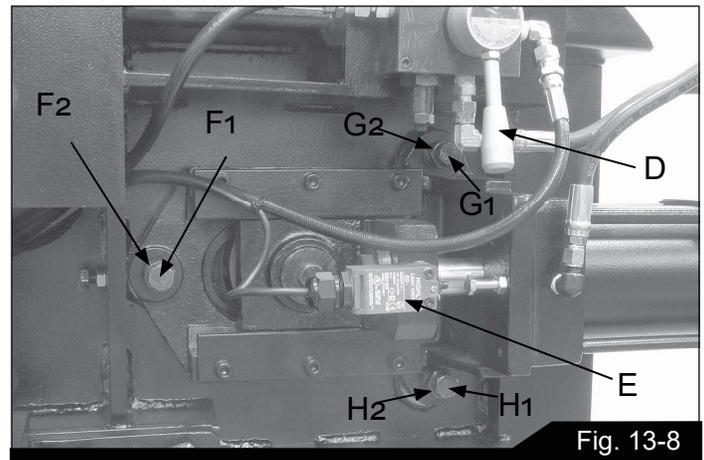

Fig. 13-8
2. Release blade tension using the tension lever (see D, Fig. 13-8).
13. Turn lever (D, Fig. 13-8) to tension blade.
Push lever (D, Fig. 13-8) to the right to tighten the blade, or left to detension it for blade replacement. Do not overtension blades.
3. Locate tracking adjustment bolts on the backside of the saw head behind the driven wheel (Figure 13-8).
4. Minor adjustment generally only requires turning the (F) screw. More significant adjustments may involve (G) and (H) screws.